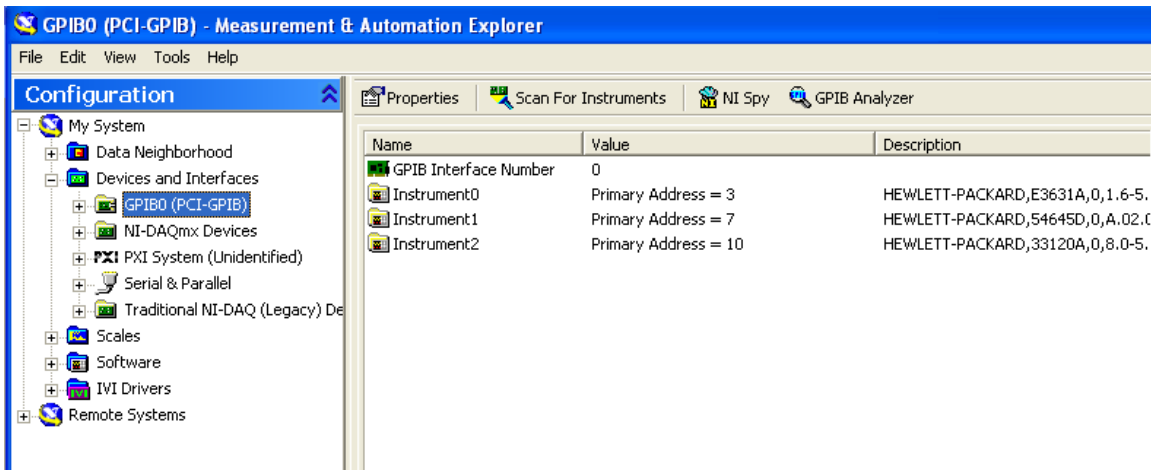

Figure 4. GPIB instrument addresses
- IV. Left-Click on GPIBO (PCI-GPIB). Figure 4 will pop up.